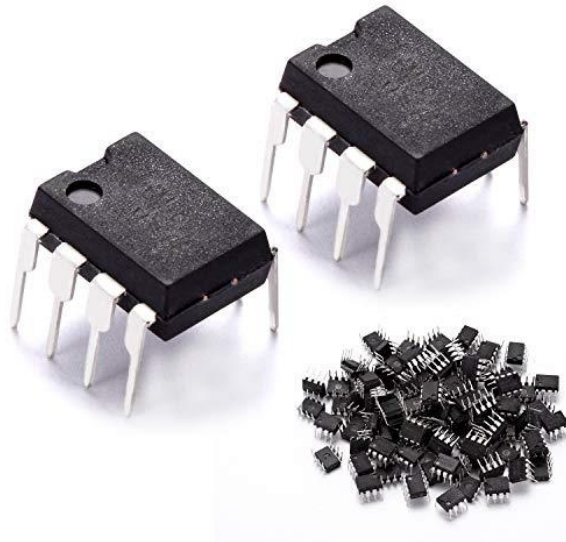

Figure 2 - Physical Representation of OP-AMP
3.....	Figure 2 - Physical Representation of OP-AMP